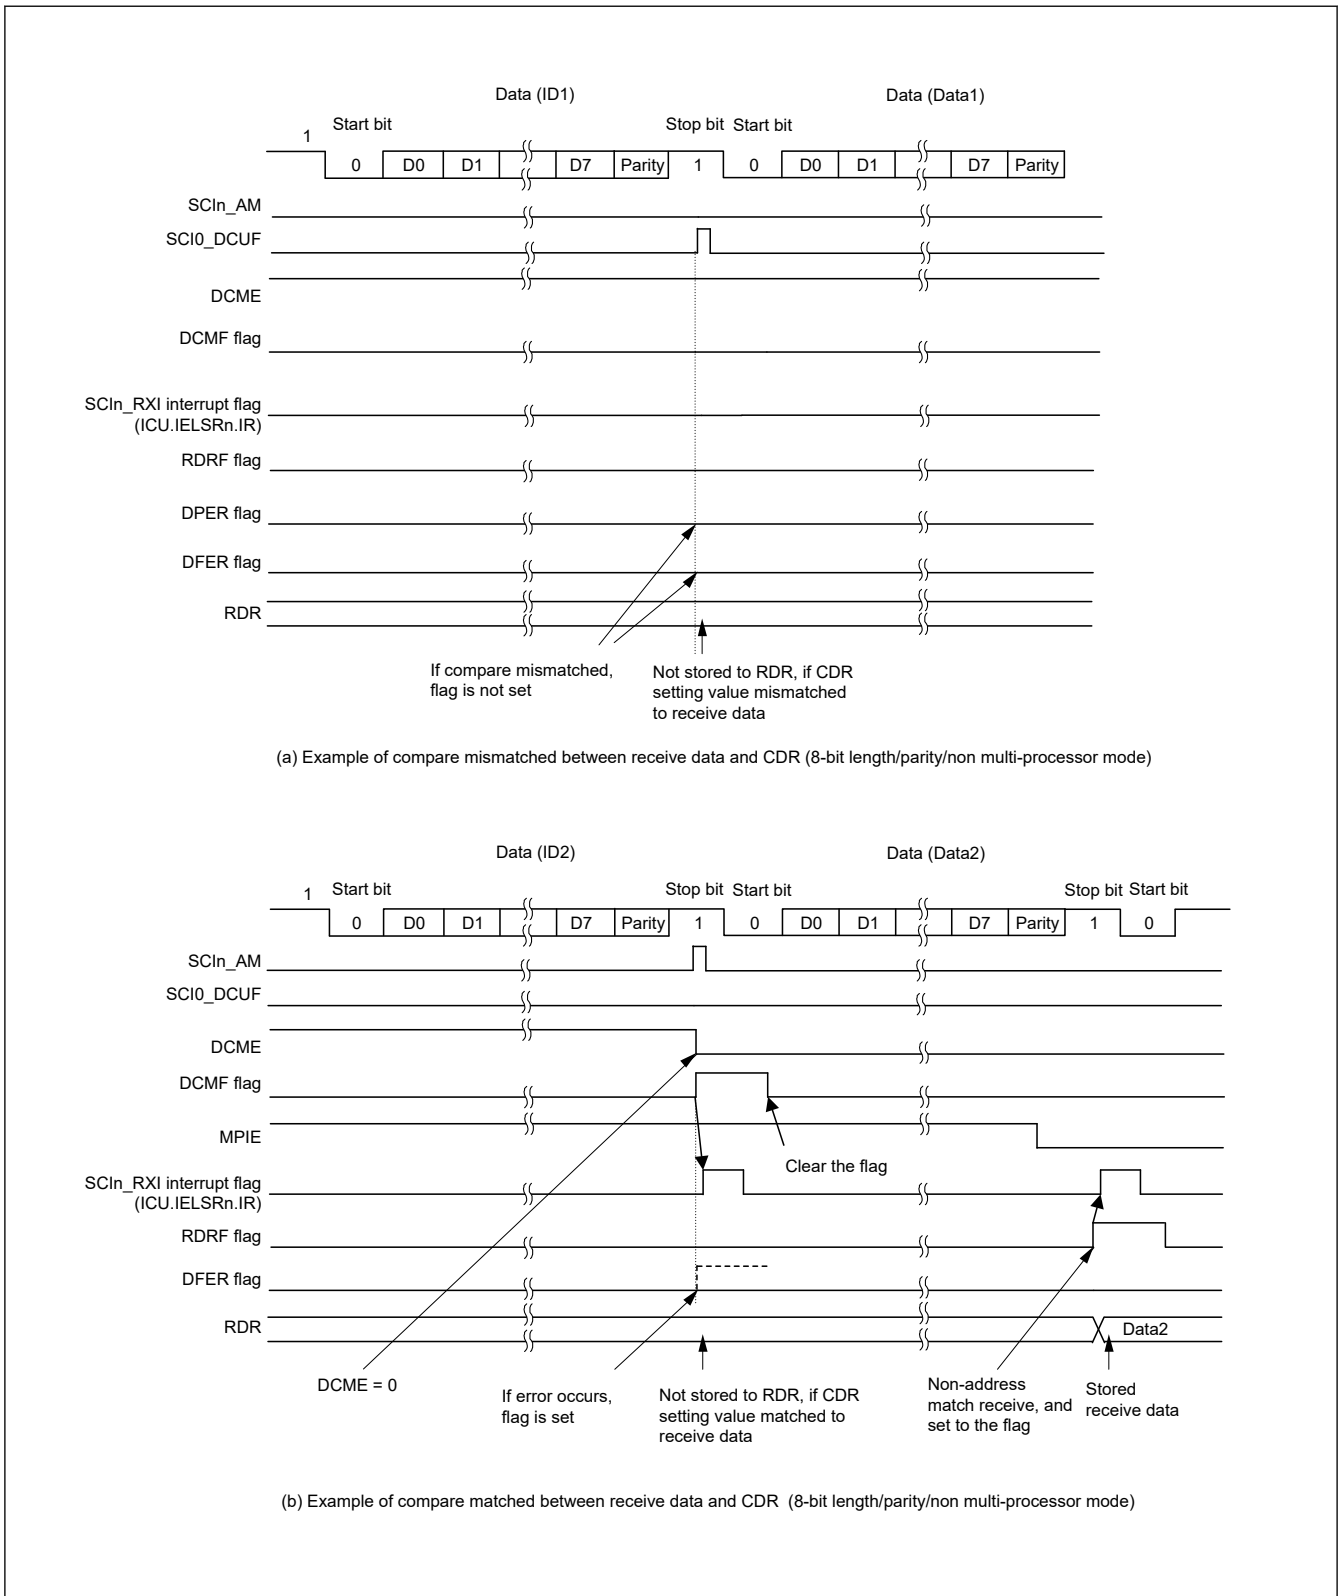
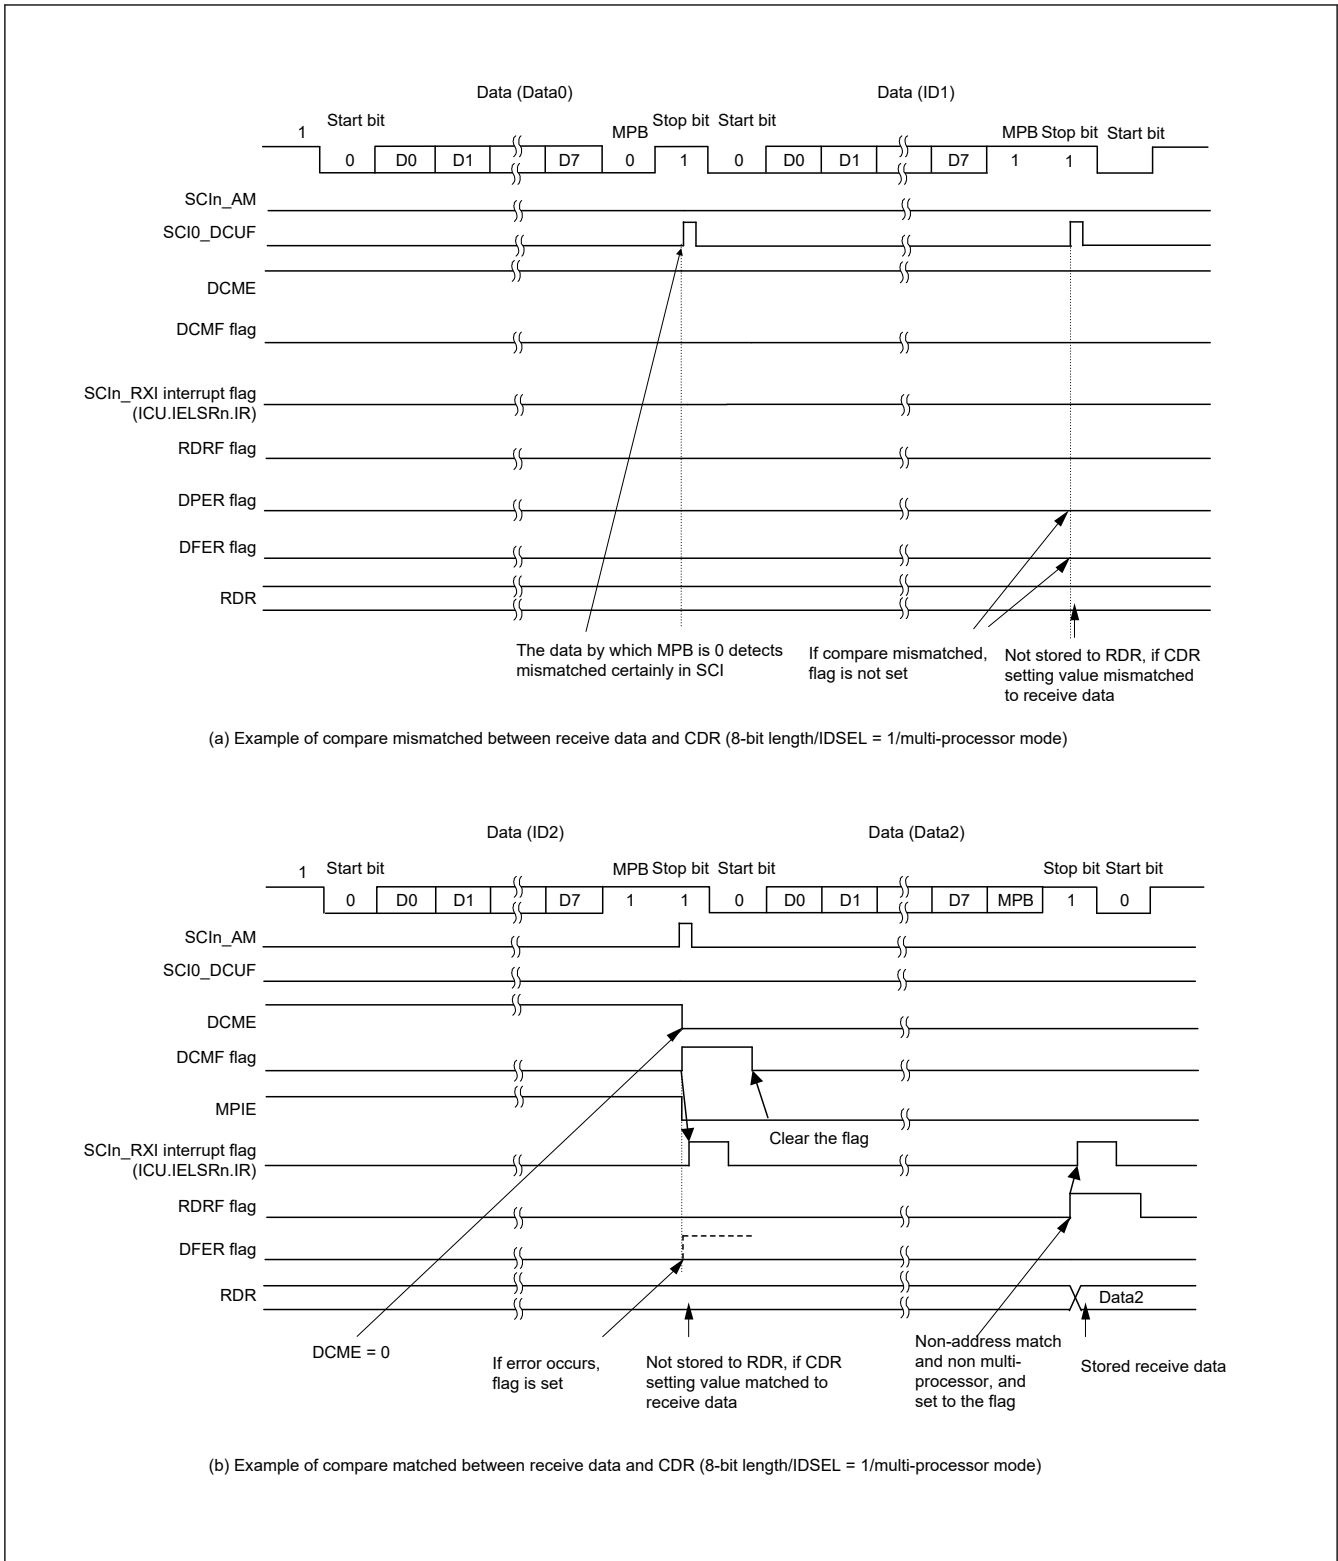

Figure 25.5 Example of address match (1) normal mode
Figure 25.6 Example of address match (2) multi-processor mode
Examples of the address match function are shown in Figure 25.5 and Figure 25.6.
6. If a framing or a parity error is detected (the DCCR.DFER flag or DCCR.DPER flag is 1) in the SCIn_AM interrupt handling routine, set the DCCR.DFER and DCCR.DPER flags to 0 and set the DCCR.DCME bit to 1 to enable the address match function again. If neither a framing nor a parity error has been detected (the DCCR.DFER and DCCR.DPER flags are both 0), set the DCCR.DCMF flag to 0. See Figure 25.5.